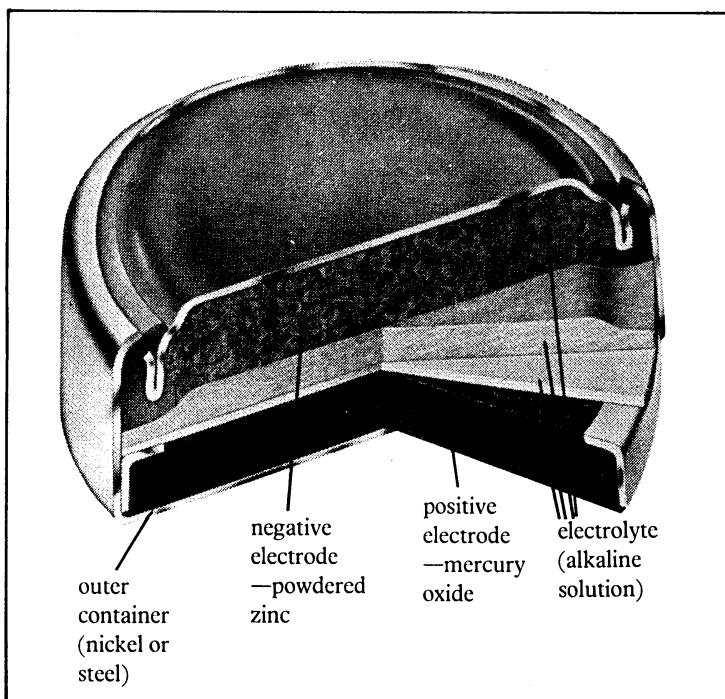

Figure 5 A mercury cell
Once again the negative electrode is zinc powder, but the positive electrode is mercury(II) oxide or silver oxide. The electrolyte is potassium hydroxide solution. The top and bottom are nickel or steel. Figure 5 shows the details for a mercury cell.